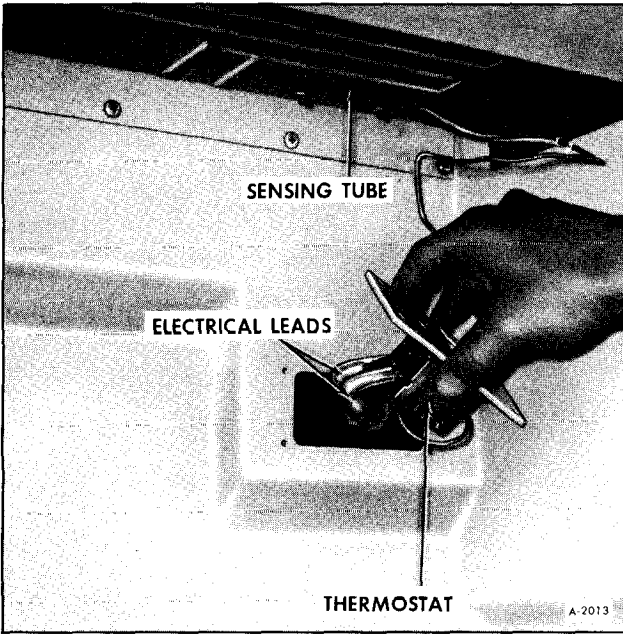

Figure 10—Removing Thermostat
### THERMOSTAT REMOVAL (FIGURE 10)
2. Install three electrical leads shown in Figure 10.